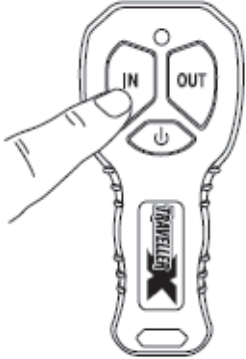

Fig 8
- Press the “IN” button on the switch to re-spool the cable (see Fig 8). Press the “OUT” button to reverse directions (see Fig 9). Wait until the motor stops before reversing directions.